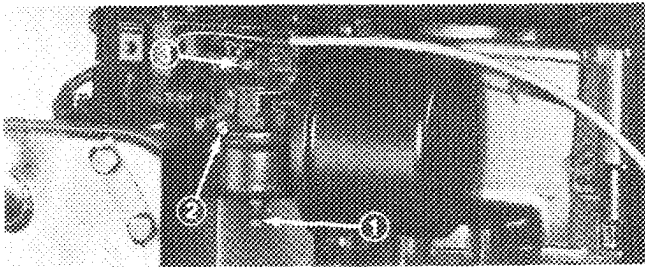

Figure 26
1. Power Adjusting Screw (Fig. 26) – Close screw by gently rotating it clockwise.
2. Rotate – open – the power adjusting screw 1 turn counterclockwise (Fig. 26).
3. Idle Mixture Screw (Fig. 26) – Close screw by gently rotating it clockwise. Rotate – open – idle mixture screw 1½ turns counterclockwise.
5. Rotate power adjusting screw (Fig. 26) clockwise, 1/8 turn at a time, until engine starts to lose speed – lean. Then rotate screw counterclockwise, 1/8 turn at a time, until engine first runs rough – rich. Wait several seconds so engine can adjust to each 1/8 turn setting. Next, rotate power adjusting screw clockwise, back to the midpoint between the rich and lean setting so engine runs smoothly.
6. Move throttle backward to IDLE. Next, rotate idle speed screw (Fig. 26) until engine idles fast – (1750 rpm).
7. Rotate idle mixture screw (Fig. 26) clockwise, 1/8 turn at a time, until engine starts to lose speed – lean. Then rotate screw counterclockwise, 1/8 turn at a time, until engine first runs rough – rich. Wait several seconds so engine can adjust to each 1/8 turn setting. Next, rotate idle mixture screw clockwise, back to the midpoint between rich and lean setting.
9. Rotate speed screw (Fig. 26) until engine idles fast (1750 rpm).